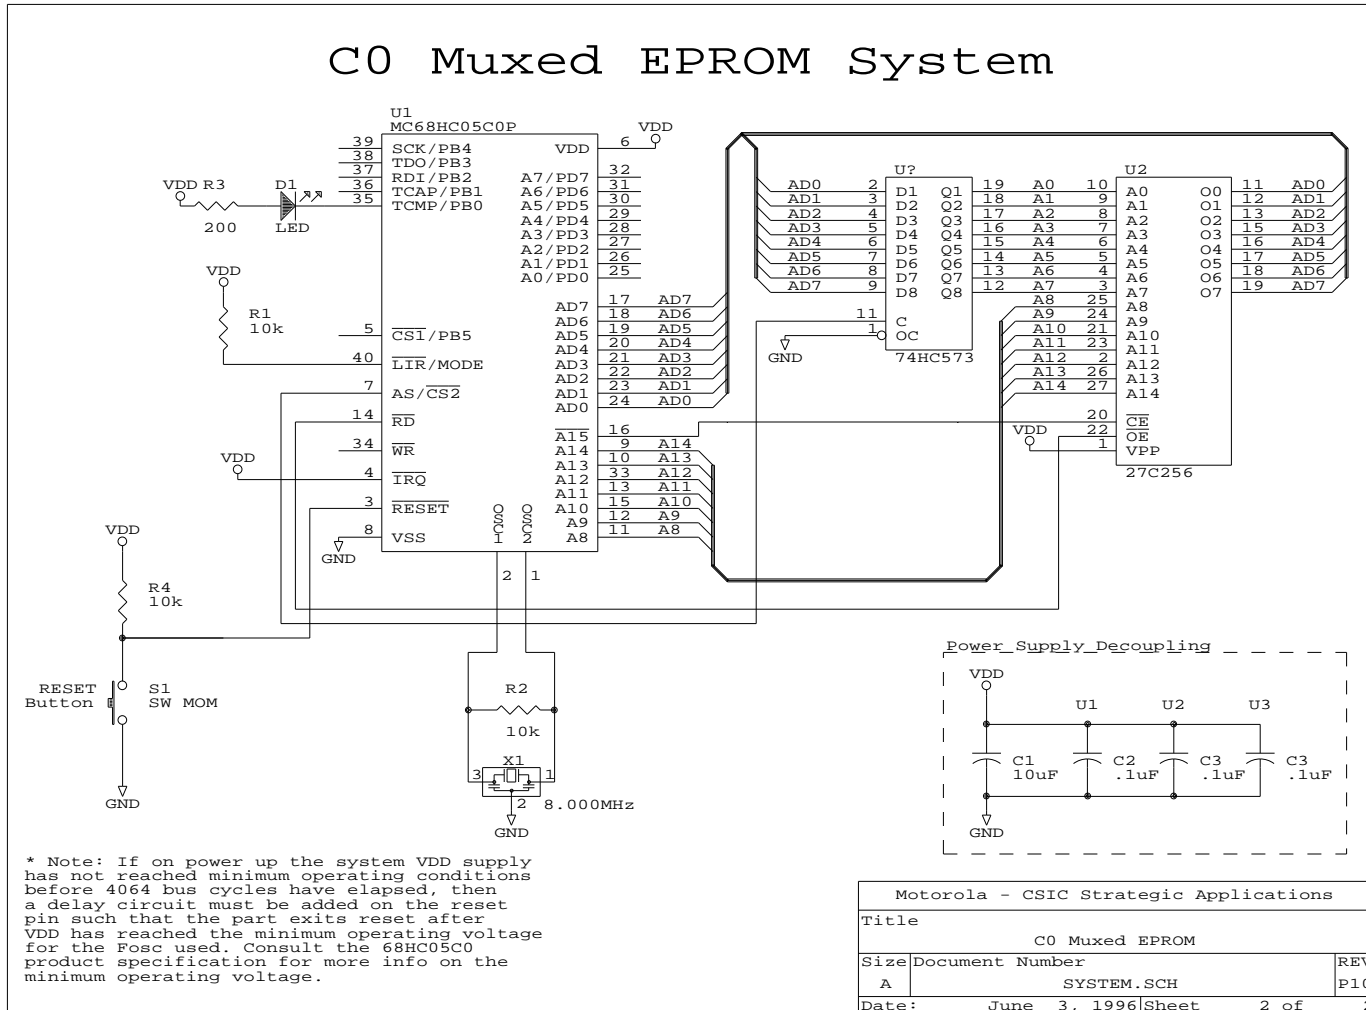

Figure 4. MC68HC05C0 Muxed Mode Schematic
**Figure 4** demonstrates the use of a 27C256 32K x 8 EPROM as the program memory in a minimum system. Muxed mode is shown. This mode requires the addition of an HC573 transparent latch, but gives eight extra I/O port pins.